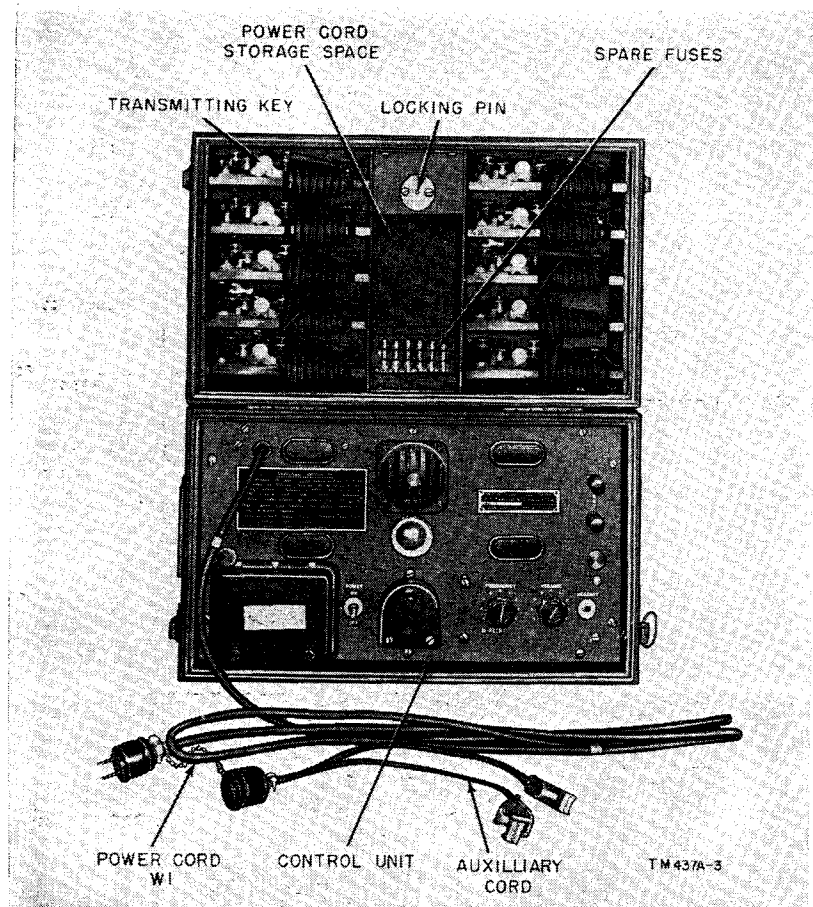

Figure 3. Code Training Set AN/GSC-T1A, components.
The following table lists the weights and dimensions of the components of Code Training Set AN/GSC-T1A (fig. 3).
*b. Transmitting Keys.* Ten transmitting keys (fig. 3) are provided with the code training set. These keys, when connected to the **KEY** terminals and operated, cause the oscillator to generate tone or to produce a flash of the neon blinker lamp, depending on the position of the **FREQUENCY-BLINKER** control.
Power cord W1 and auxiliary battery cord (fig. 3).	To connect the code training set to a source of power.
- c. Use the plug at the end of the power cord to rotate the voltage selector switch to the OFF position. Any other position of the voltage selector switch will not allow the locking pin in the cover to engage the hole in the voltage selector switch and will prevent the lid from closing properly (fig. 3).